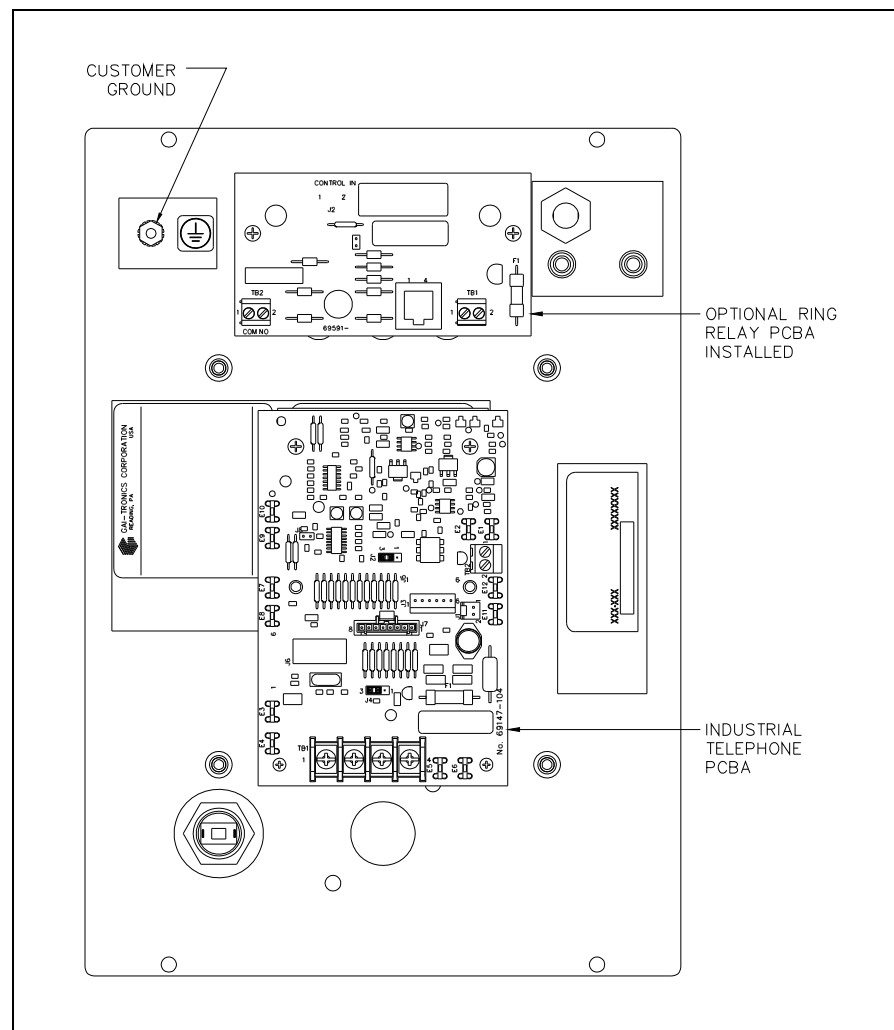

Figure 1. Model 354-001 Front Panel Interior
3. Install two (provided) 6-32 × 1.0-inch F/F standoffs onto the weld studs on the back of the front panel (see Figure 1).
Note the orientation of the ring relay PCBA (see Figure 1).